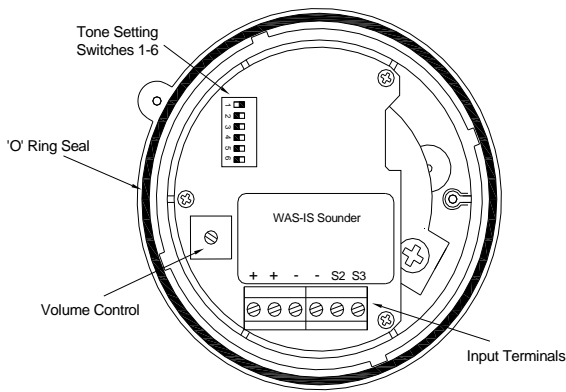

Fig 2 Location of field terminals and controls.
Tone Selection – To select the required first stage tone set the tone switches 1 to 6 (see Fig 2) to the tone setting shown in the table below. The table also shows which 2nd and 3rd stage tones are available for use with the selected first stage tone if more than one tone output stage is required.
- Fit the required number of 20mm cable glands or conduit entries into the base and connect the field wiring to the appropriate sounder terminals as shown in section 6 and fig 2 of this manual. The power supply terminals + and - are duplicated so that sounders may be connected in parallel, or an end of line monitoring resistor may be fitted.
- Select the required output tone by positioning the six switches as shown in Table 1 and Fig 2.
- Check that the 'O' ring seal is correctly located on the sounder section (see Fig. 2) and insert the sounder section into the base. Push it fully home and turn it clockwise to align the mouldings before tightening the security screw.
The output level of the WAS-IS sounder can be set by adjusting the volume control potentiometer (see Fig 2).